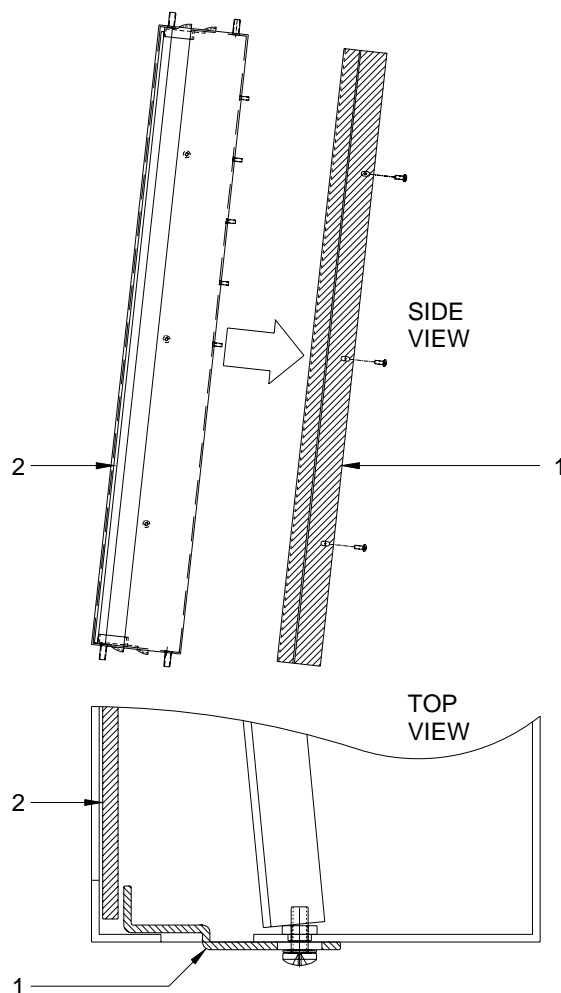

Figure 5-6-2. Removing Diffuser
- h. Remove light box cover as shown in Figure 5-6-2.